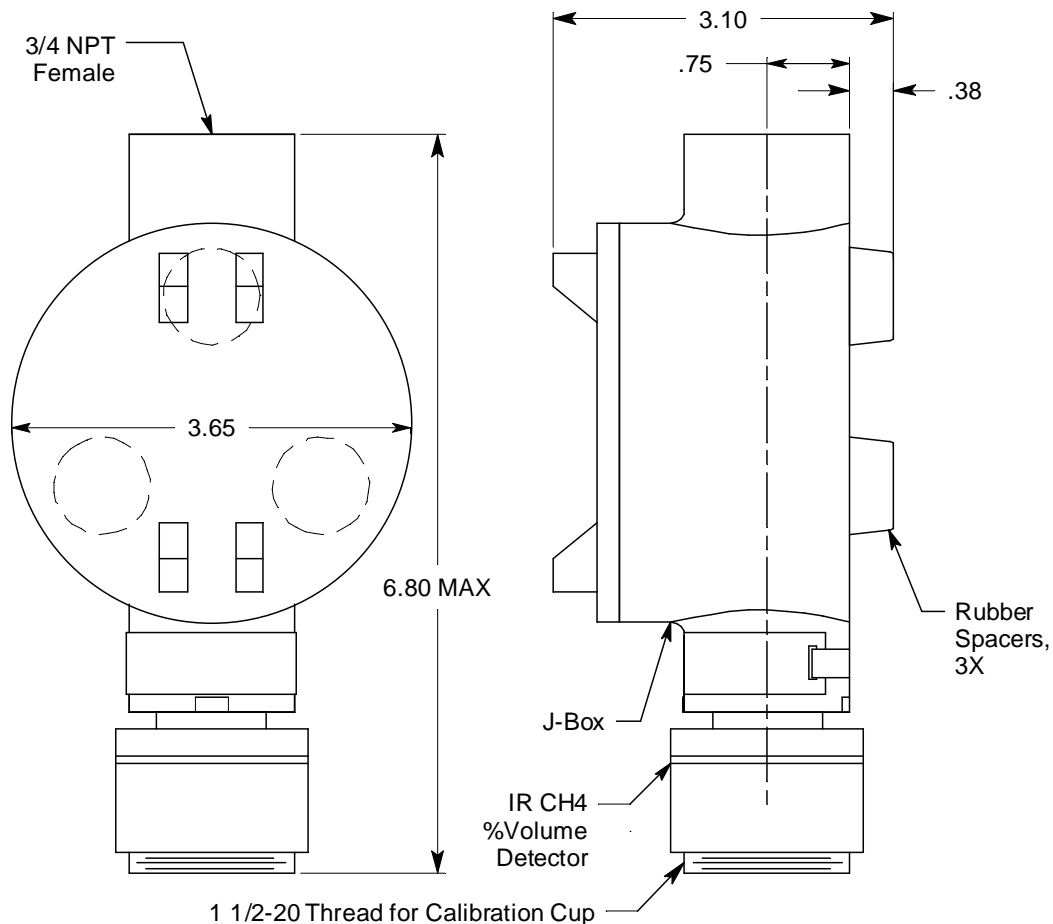

Figure 3: Mounting the Methane Transmitter
2. At the monitoring site you select, hang or mount the junction box with the detector facing down (see Figure 3).